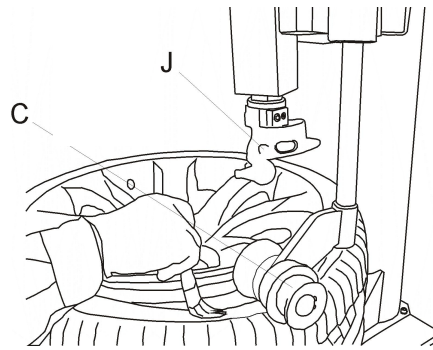

Fig 9
1. Press tyre with right pressing roller C,G to a position 3cm lower than rim edge, lubricate tyre bead, rotate turntable, lift roller C,G. ( Fig 9 )